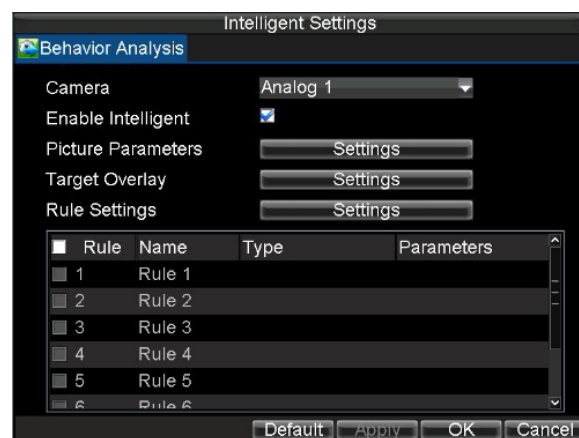

Figure 21. Intelligent Settings Menu
1. Enter the Intelligent Settings interface by clicking Menu > Settings > Intelligent, shown in Figure 21.